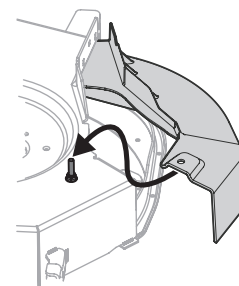

Figure 11
5. Place one hand in middle of top portion of mulch assembly to secure horizontal flange in place. While holding the mulch assembly in place with one hand, use other hand to lift mounting hole tab over fastener post and hook mounting hole to fastener post on top of deck. See Figure 11.